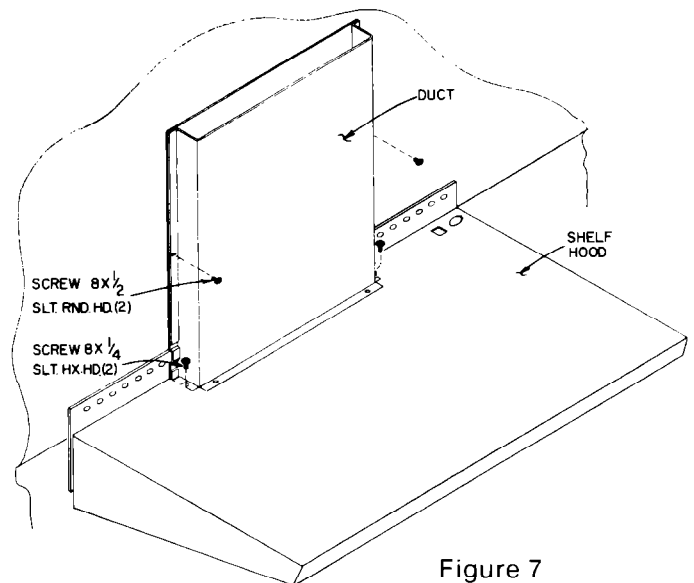

Figure 7
- B. Mark and drill (2) 1/8" dia. holes (1 each side) to fasten the thin duct provided with the hood to the back wall. See Figure 7.
- C. Use 2 #8 x 1/4" long screws provided with the unit to fasten the narrow thin duct to the shelf. See Figure 7.